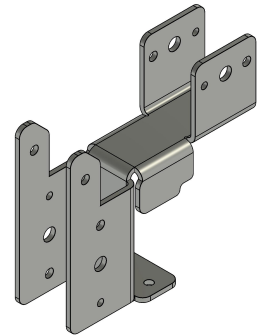

Figure 1 - Two Way Exterior Wood Stud Bracket
- 20 Two Way Exterior Wood Stud Brackets (fig. 1)